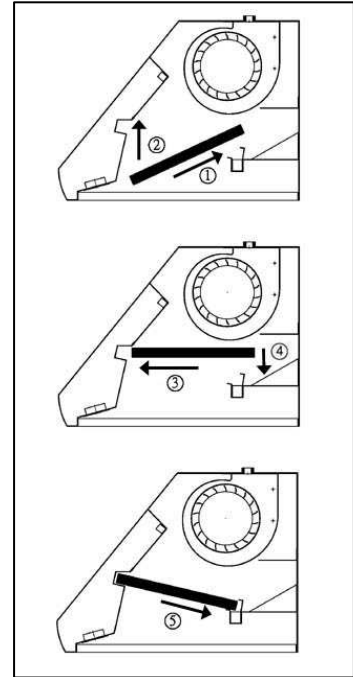

Figure 8
10. Angle baffle filter toward back of hood ①. Refer to Figure 8.
13. Lower baffle filter ④ and slide back until it fits into resting position ⑤.
8. Angle baffle filter toward back of hood ①. Refer to Figure 8.
9. Push baffle filter up until almost level ②.
10. Slide forward into recess at front of hood ③.
11. Lower baffle filter ④ and slide back until it fits into resting position ⑤.